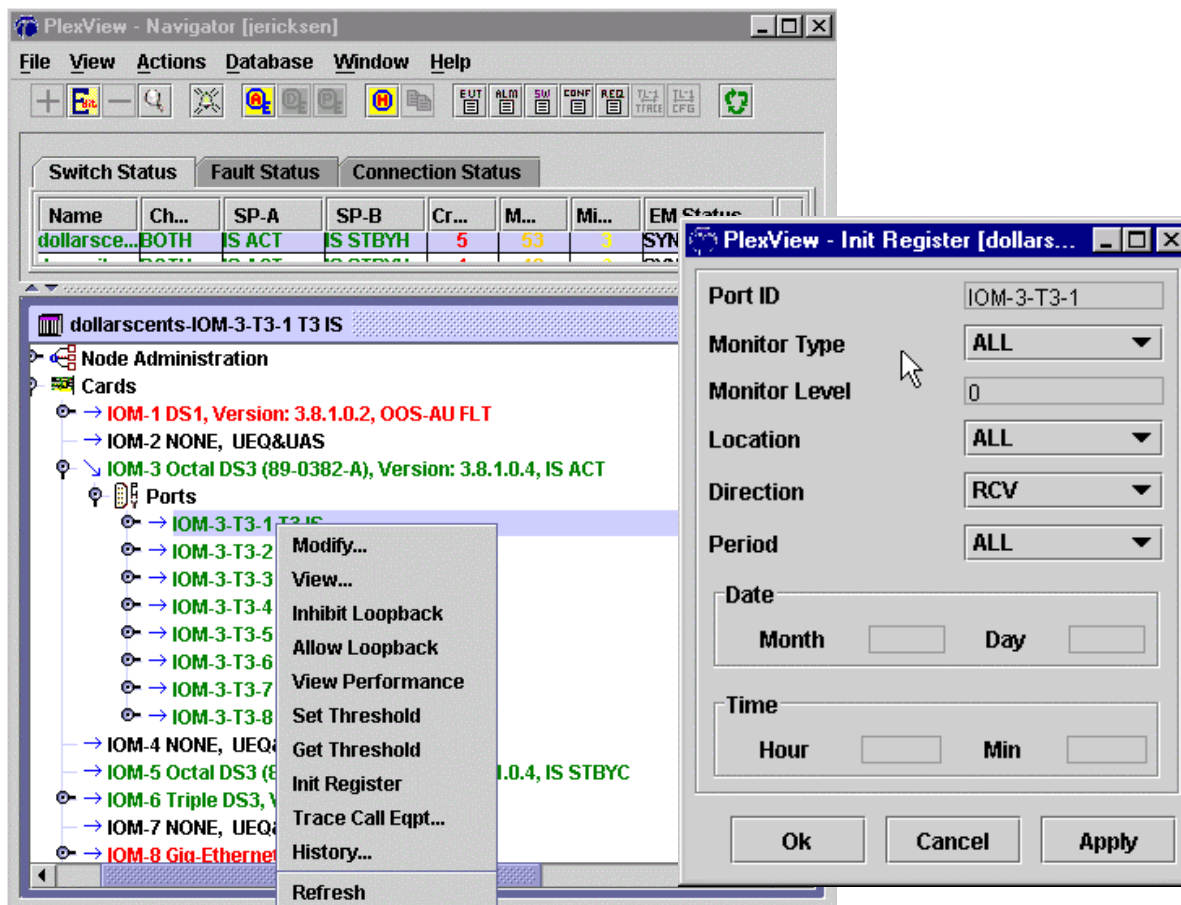

Figure 8. Modify T3 Registers
18. Initialize one or more storage registers or event counters associated with specific T3 ports in the Plexus 9000. Double-click *Switch*, *Switch name*, *Cards*, desired *IOM*, and *Ports*. Right-click the desired port and select *Init Register*. Make changes if necessary and then click *Ok* or *Apply*. See Figure 8. Reference **DLP-538** for detailed information for the command.